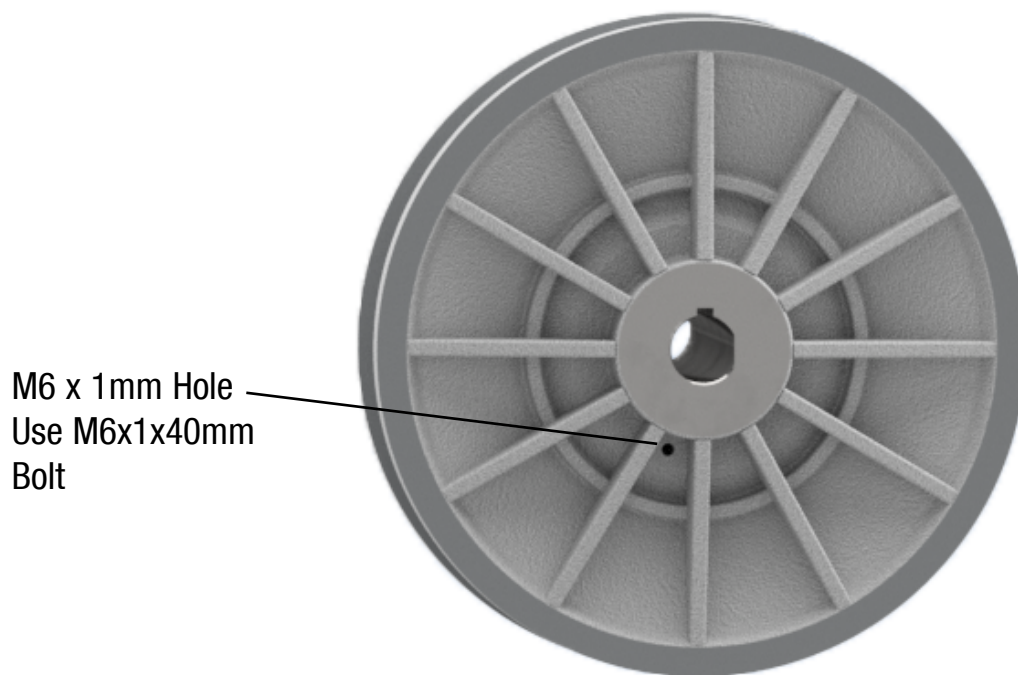

Figure 3.4: Pulley Separation
7. If necessary, use a M6x1.0x40 mm bolt to spread apart the pulleys to allow slack in the belt and remove it from the lower and upper pulleys. Refer to Figure 3.4.